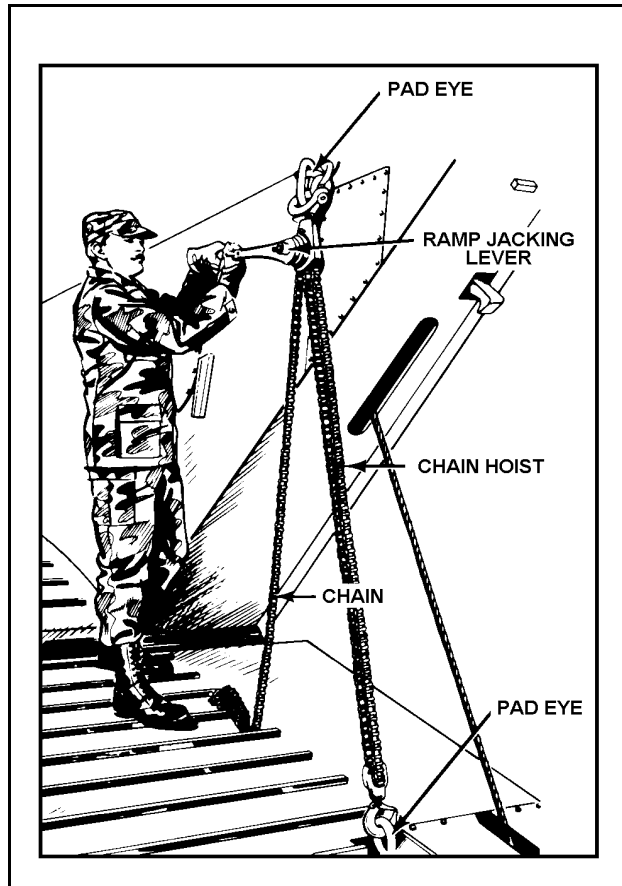

Figure 17-15. Securing Ramp Jacking Lever
- **Step 3.** Hook the ramp jacking lever to the pad eye on the inboard side of the bulkhead on the main deck. This pad eye is located just aft of the load binder (Figure 17-15).